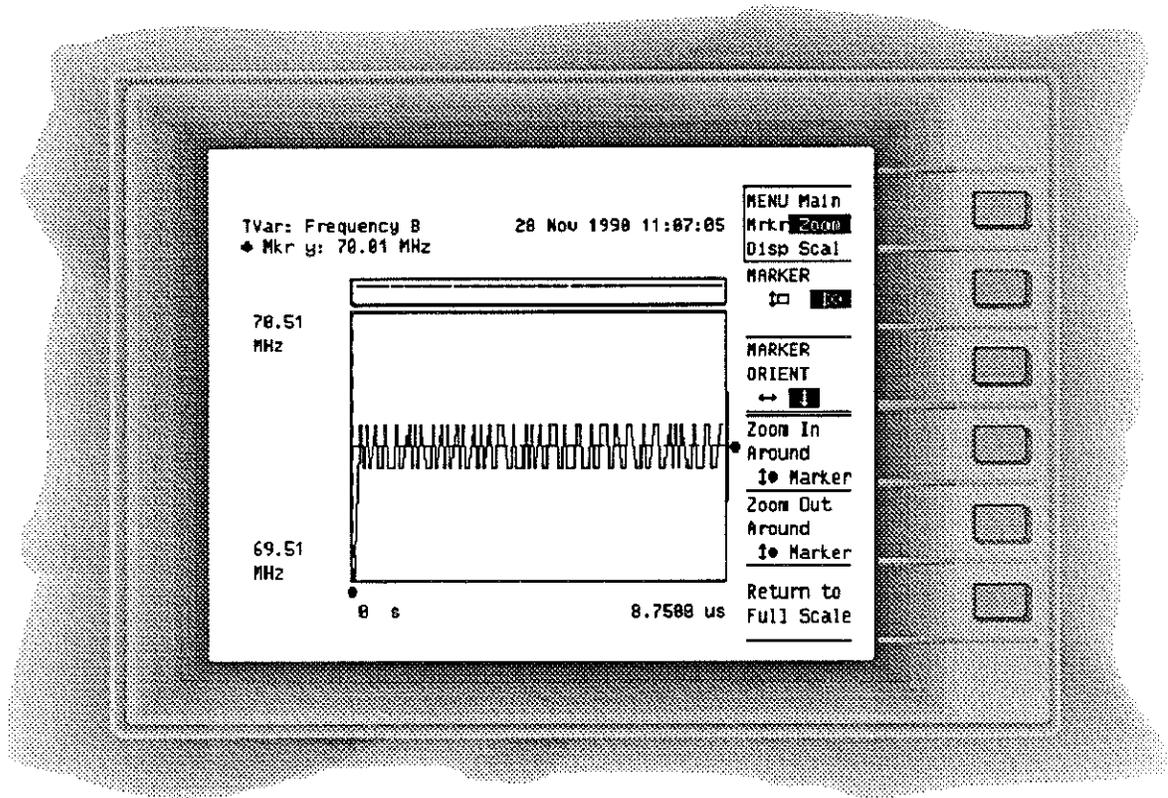

Figure 3-8. Modulation Domain Display (F vs. T)
10. Press the fourth Softkey from the top as needed to Zoom In (magnify) the pulse carrier frequency variation over time until the desired result is obtained (See Figure 3-8.).